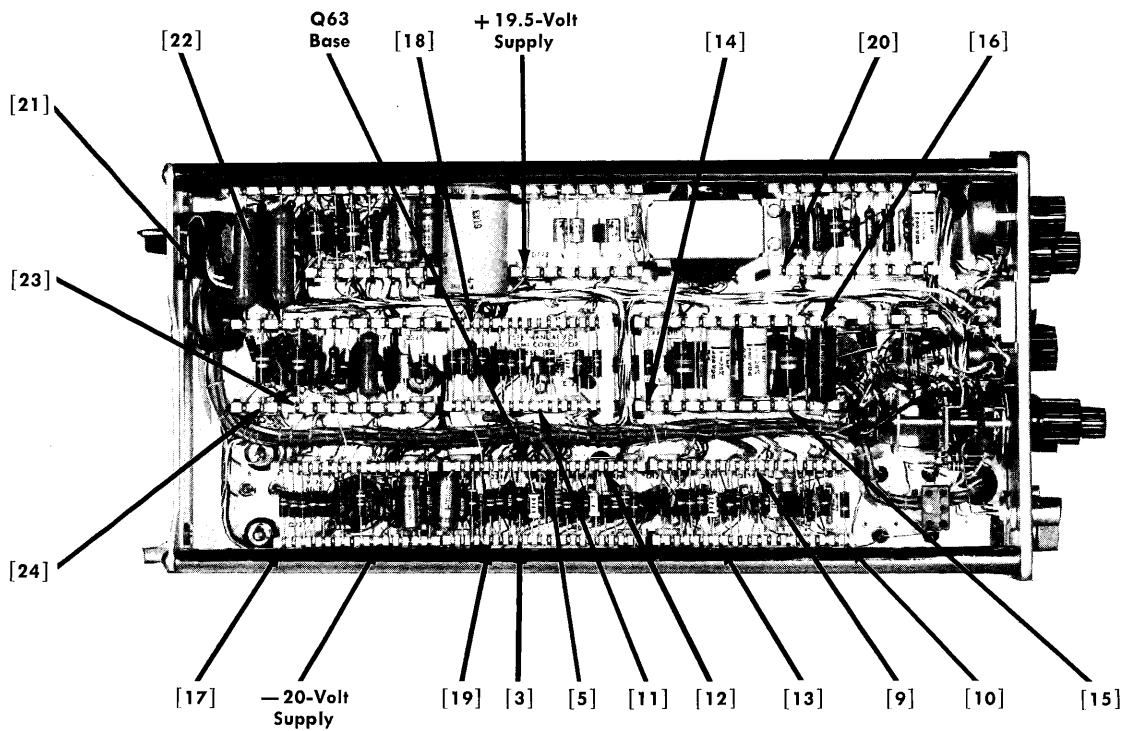

Fig. 6-2. Left-side view of Type 3T77 showing test points.
1. With the dc voltmeter, measure the voltages of the +19.5- and -20-volt power supplies (see Fig. 6-2).